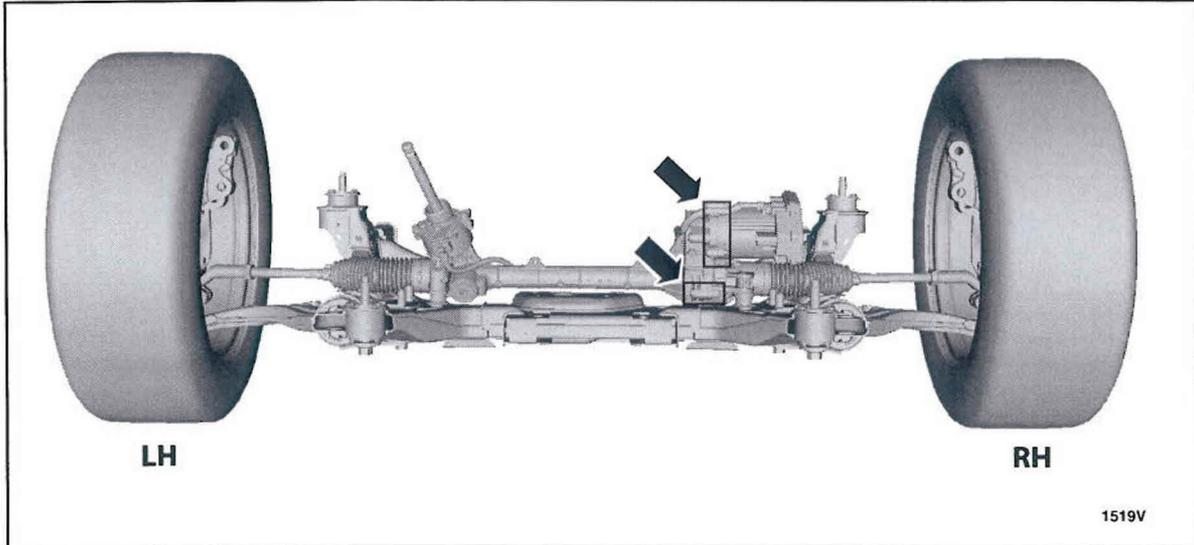

FIGURE 7
6. Working from the rear of the subframe, insert nozzle between the steering gear and subframe underneath housing seam. Apply sealant to steering gear to housing seam, housing bolt heads and threads. See Figures 7 and 8.